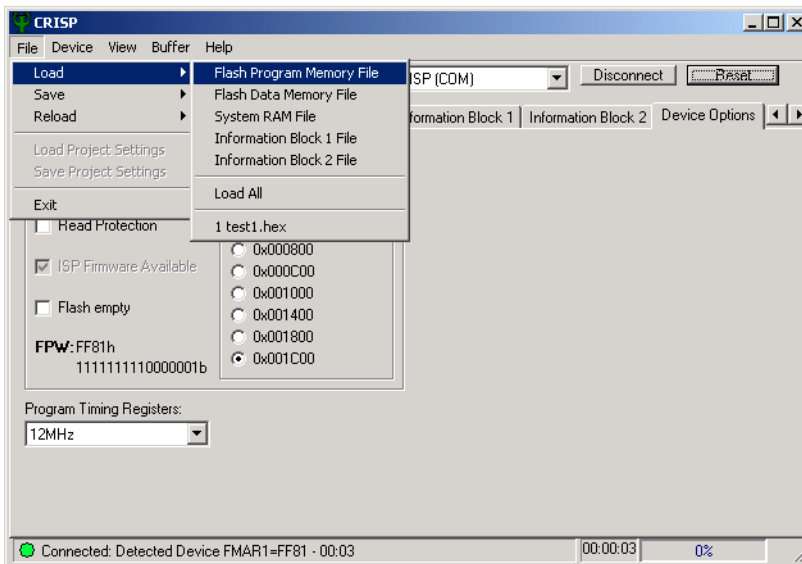

Figure 5-3. Selecting the Command to Open a Program Flash File
1. **Browse for a Hex File.** Select the File -> Load -> Flash Program Memory File command to bring up a dialog box which displays hex files in the current folder. The command is shown in Figure 5-3.